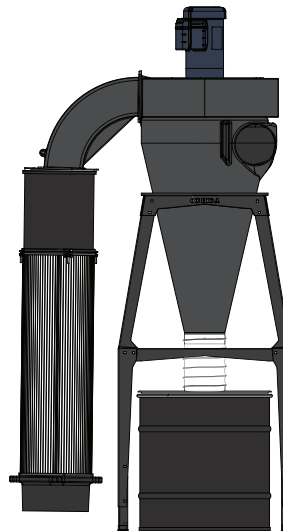

FIG. 1a
- Stand Instruction Sheet # ZBI000018 [FIG 1a]